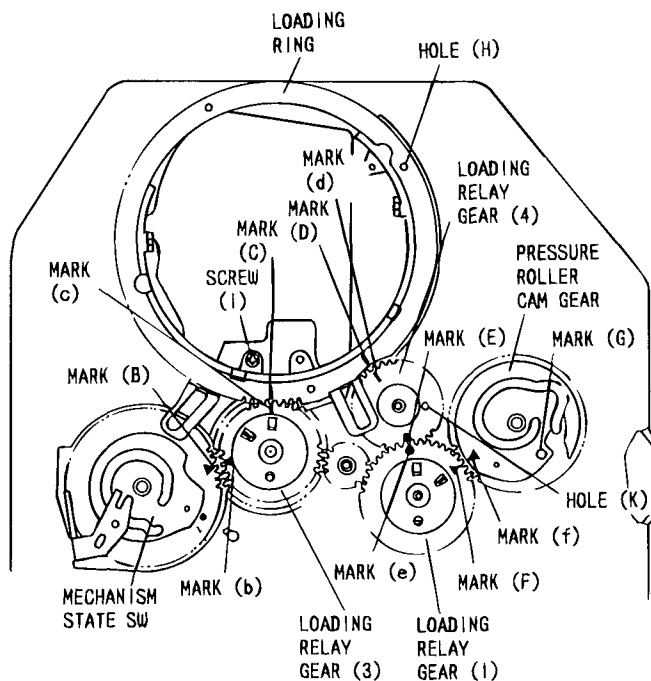
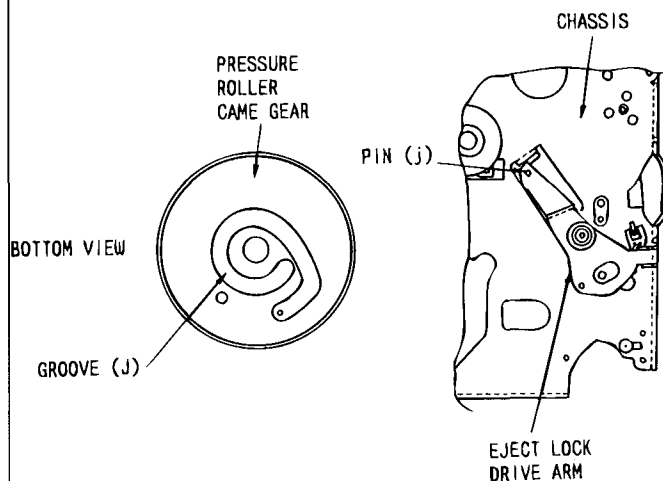

Fig. 3-2
Fig. 3-3
(Figs. 3-2, 3-3)
- 1) Align the markings of the loading ring and gears as shown in Fig. 3-2.
**Caution:** When reinstalling the pressure roller cam gear, set the eject lock drive arm to the position shown in Fig. 3-3 and check that pin (j) is inserted into groove (J) in the back of the pressure roller cam gear.
**Advice:** If it is difficult to see marking (D) on the lower loading ring, match the phase by the following procedure.
- (1) Set the upper and lower loading rings to the state shown in Fig. 3-2. (Watch the guide roller fixing section.)
- (2) Move the upper and lower loading rings so that holes (H) overlap each other.
- (3) If holes (H) overlap each other, the phase of the loading ring is correct.
- (4) If holes (K) overlap each other, the phase of the loading relay gear (4) is correct.